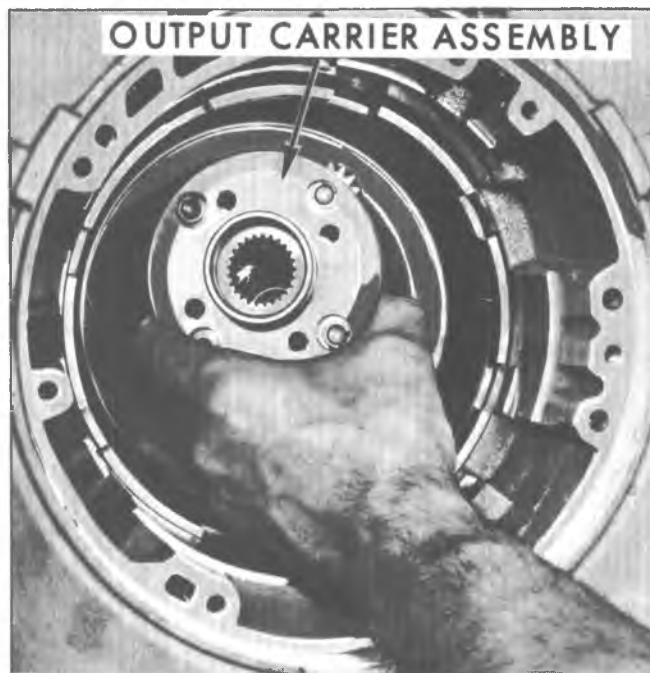

Fig. 7A-40B--Removing Output Carrier Assembly
10. Remove input ring gear (fig. 7A-38B).